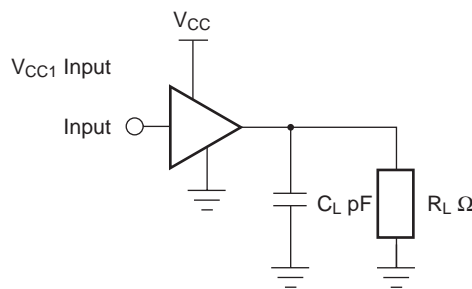
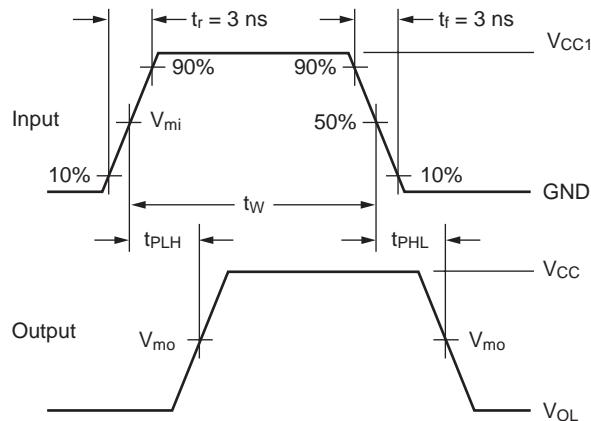

Figure 1. AC Test Circuit
Figure 2. Waveform for Inverting and Non-Inverting Functions
| t _{PHL} t _{PLH} | Propagation Delay Output Translation V _{CC} (V) = 1.0 | C _L = 10pF R _L = 1MΩ | 1.0 | | 26.0 | | | | ns | Figure 1 Figure 2 |
| t _{PHL} t _{PLH} | Propagation Delay Output Translation V _{CC} (V) = 1.2 | C _L = 10pF R _L = 1MΩ | 1.0 | | 18.0 | | | | ns | Figure 1 Figure 2 |
| t _{PHL} t _{PLH} | Propagation Delay Output Translation V _{CC} (V) = 1.5 | C _L = 10pF R _L = 1MΩ | 1.0 | | 14.0 | | | | ns | Figure 1 Figure 2 |
| t _{PHL} t _{PLH} | Propagation Delay Output Translation V _{CC} (V) = 1.8 | C _L = 10pF R _L = 1MΩ | 1.0 | | 13.0 | | | | ns | Figure 1 Figure 2 |
| t _{PHL} t _{PLH} | Propagation Delay Output Translation V _{CC} (V) = 2.5 | C _L = 10pF R _L = 1MΩ | 1.0 | | 12.0 | | | | ns | Figure 1 Figure 2 |
| t _{PHL} t _{PLH} | Propagation Delay Output Translation V _{CC} (V) = 3.3 | C _L = 10pF R _L = 1MΩ | 1.0 | | 11.0 | | | | ns | Figure 1 Figure 2 |
| t _{PHL} t _{PLH} | Propagation Delay Output Translation V _{CC} (V) = 1.0 | C _L = 15pF R _L = 1MΩ | 1.0 | | 28.0 | | | | ns | Figure 1 Figure 2 |
| t _{PHL} t _{PLH} | Propagation Delay Output Translation V _{CC} (V) = 1.2 | C _L = 15pF R _L = 1MΩ | 1.0 | | 19.0 | | | | ns | Figure 1 Figure 2 |
| t _{PHL} t _{PLH} | Propagation Delay Output Translation V _{CC} (V) = 1.5 | C _L = 15pF R _L = 1MΩ | 1.0 | | 15.0 | | | | ns | Figure 1 Figure 2 |
| t _{PHL} t _{PLH} | Propagation Delay Output Translation V _{CC} (V) = 1.8 | C _L = 15pF R _L = 1MΩ | 1.0 | | 14.0 | | | | ns | Figure 1 Figure 2 |
| t _{PHL} t _{PLH} | Propagation Delay Output Translation V _{CC} (V) = 2.5 | C _L = 15pF R _L = 1MΩ | 1.0 1.10 to 1.30 1.40 to 1.60 1.65 to 1.95 2.30 to 2.70 3.00 to 3.60 | 4.0 3.5 3.0 2.5 2.5 | 12.0 7.0 6.0 5.0 4.0 4.0 | 11.3 9.8 9.1 8.5 8.3 | 3.5 3.0 2.5 2.0 2.0 | 14.9 13.6 12.0 11.3 11.1 | ns | Figure 1 Figure 2 |
| t _{PHL} t _{PLH} | Propagation Delay Output Translation V _{CC} (V) = 3.3 | C _L = 15pF R _L = 1MΩ | 1.0 1.10 to 1.30 1.40 to 1.60 1.65 to 1.95 2.30 to 2.70 3.00 to 3.60 | 3.0 2.5 2.0 1.5 1.5 | 11.0 6.0 5.0 4.0 3.0 3.0 | 10.5 8.6 7.8 7.2 7.0 | 2.0 1.5 1.0 1.0 1.0 | 14.2 11.0 10.3 9.7 9.4 | ns | Figure 1 Figure 2 |
| t _{PHL} t _{PLH} | Propagation Delay Output Translation V _{CC} (V) = 1.0 | C _L = 30pF R _L = 1MΩ | 1.0 1.10 to 1.30 1.40 to 1.60 1.65 to 1.95 2.30 to 2.70 3.00 to 3.60 | 19.0 18.0 17.0 16.0 15.0 | 34.0 32.0 31.0 30.0 29.0 28.0 | 48.6 47.1 46.4 45.9 45.8 | 15.0 14.0 13.0 12.0 10.0 | 55.5 52.3 50.6 49.2 49.1 | ns | Figure 1 Figure 2 |
| t _{PHL} t _{PLH} | Propagation Delay Output Translation V _{CC} (V) = 1.2 | C _L = 30pF R _L = 1MΩ | 1.0 1.10 to 1.30 1.40 to 1.60 1.65 to 1.95 2.30 to 2.70 3.00 to 3.60 | 11.0 10.0 9.0 8.5 8.0 | 22.0 19.0 18.0 17.0 16.0 16.0 | 29.0 27.5 26.7 26.1 26.0 | 10.0 9.0 8.0 7.0 6.0 | 46.5 42.6 36.7 36.0 35.9 | ns | Figure 1 Figure 2 |
| t _{PHL} t _{PLH} | Propagation Delay Output Translation V _{CC} (V) = 1.5 | C _L = 30pF R _L = 1MΩ | 1.0 1.10 to 1.30 1.40 to 1.60 1.65 to 1.95 2.30 to 2.70 3.00 to 3.60 | 6.0 5.8 5.5 5.0 4.5 | 16.0 13.0 12.0 11.0 10.0 9.0 | 19.8 18.3 17.6 17.0 16.8 | 5.5 5.0 4.5 4.0 3.5 | 25.3 23.0 22.4 21.7 21.5 | ns | Figure 1 Figure 2 |
| t _{PHL} t _{PLH} | Propagation Delay Output Translation V _{CC} (V) = 1.8 | C _L = 30pF R _L = 1MΩ | 1.0 1.10 to 1.30 1.40 to 1.60 1.65 to 1.95 2.30 to 2.70 3.00 to 3.60 | 5.0 4.5 4.0 3.5 3.5 | 15.0 11.0 10.0 9.0 8.0 8.0 | 16.2 14.7 13.9 13.3 13.1 | 5.5 4.0 3.5 3.0 2.5 | 20.4 19.2 18.5 17.9 17.6 | ns | Figure 1 Figure 2 |
| t _{PHL} t _{PLH} | Propagation Delay Output Translation V _{CC} (V) = 2.5 | C _L = 30pF R _L = 1MΩ | 1.0 1.10 to 1.30 1.40 to 1.60 1.65 to 1.95 2.30 to 2.70 3.00 to 3.60 | 4.0 3.5 3.0 2.5 2.5 | 13.0 8.0 7.0 6.0 5.0 5.0 | 12.7 11.2 10.5 9.9 9.7 | 3.5 3.0 2.5 2.0 2.0 | 15.9 14.3 13.6 12.8 12.5 | ns | Figure 1 Figure 2 |
| t _{PHL} t _{PLH} | Propagation Delay Output Translation V _{CC} (V) = 3.3 | C _L = 30pF R _L = 1MΩ | 1.0 1.10 to 1.30 1.40 to 1.60 1.65 to 1.95 2.30 to 2.70 3.00 to 3.60 | 3.0 2.5 2.0 1.5 1.5 | 12.0 8.0 7.0 6.0 5.0 5.0 | 11.7 9.8 8.9 8.3 8.1 | 2.0 1.5 1.0 1.0 1.0 | 15.0 12.2 11.5 10.7 10.4 | ns | Figure 1 Figure 2 |